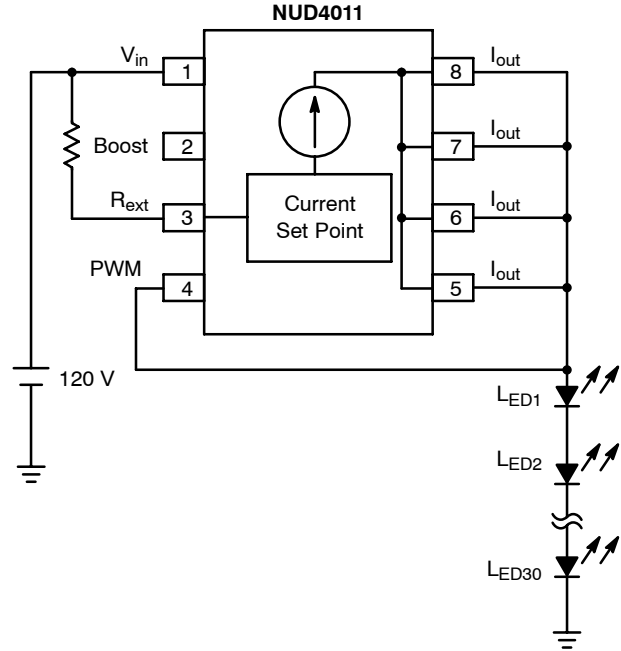

Figure 5. 120 V Application
3. Device's pin 4 connected to the LEDs array (as shown in Figure 5).
- a. Per example in Figure 5, $V_{in} = 120 \text{ Vdc}$
4. Define $V_{LED} @ I_{LED}$ per LED supplier's data sheet: per example in Figure 5,
- a. Per example in Figure 5, $V_{in} = 120 \text{ Vac}$